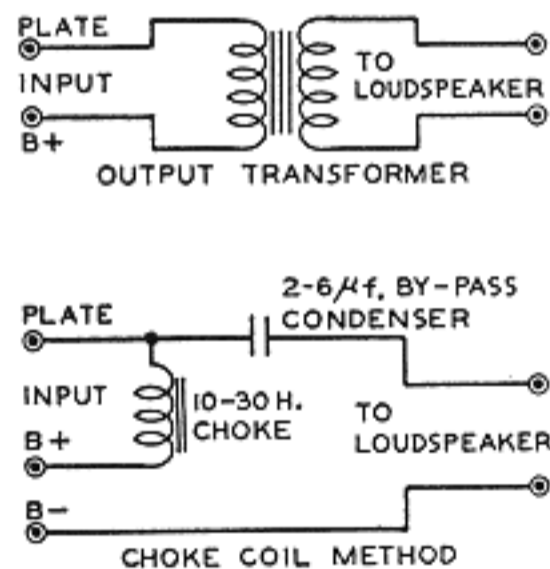

Fig. 20
Output coupling devices are of two types, (1) choke condenser and (2) transformer. The choke-condenser type consists of an iron-core choke coil with an inductance of not less than 12 henrys which is placed in series with the plate and B-supply. The choke offers a very low resistance to the d-c plate current but opposes the flow of the fluctuating signal voltage. A by-pass condenser of 2 to 4 μ f. supplies a path to the speaker winding for the signal voltage. The transformer type is constructed with two separate windings, a primary and a secondary wound on an iron core. This construction permits of designing each winding to meet the requirements of its position in the circuit. Typical arrangements of each type of coupling device are shown in Fig. 20.